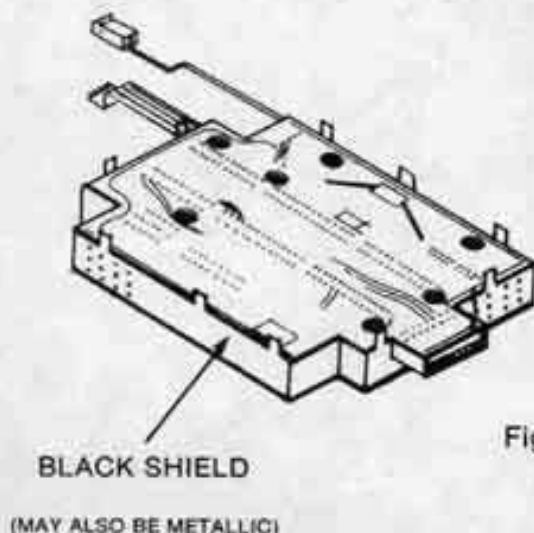

Figure 4-10
(1) Refer to Figure 4-10. Carefully unsolder and remove logic board shields.
(2) Inspect circuit board for evidence of broken or peeling circuit traces.
(3) Inspect components on circuit board for evidence of charring, swelling, arcing or shorting.
(4) Inspect connectors for bent, broken or missing connector pins.
(5) Make sure all socket mounted ICs are fully seated in sockets. Make sure that heat-sinks on ICs U1, U2 and U4 are securely attached to the ICs.
(6) Inspect all jumper wires for evidence of burned or frayed insulation. Make sure all jumper wires are securely soldered to circuit board.
(7) Make sure that connector J5 is securely attached to wire.
(2) Support the circuit board so that it will not move or cause the soldering iron to strike other components.
(3) Install new components in the same position as they were removed.
(4) Inspect and test all resoldered connections.
(5) Use desoldering equipment, such as a solder vacuum, when unsoldering components.
(6) Use a heat sink on semi-conductor leads when soldering or unsoldering in the area.
(7) Remove excess solder, solder splatter and rosin splatter after repairs are completed.
(8) Remove socket mounted ICs by carefully prying out of socket with a small screwdriver.
(9) Install socket mounted ICs by bending IC pins into position over socket holes, and applying firm, even pressure to IC.
(10) Replace jumper wires with wire of the same gage.
(11) Reinstall logic board shields as illustrated in Figure 4-10.